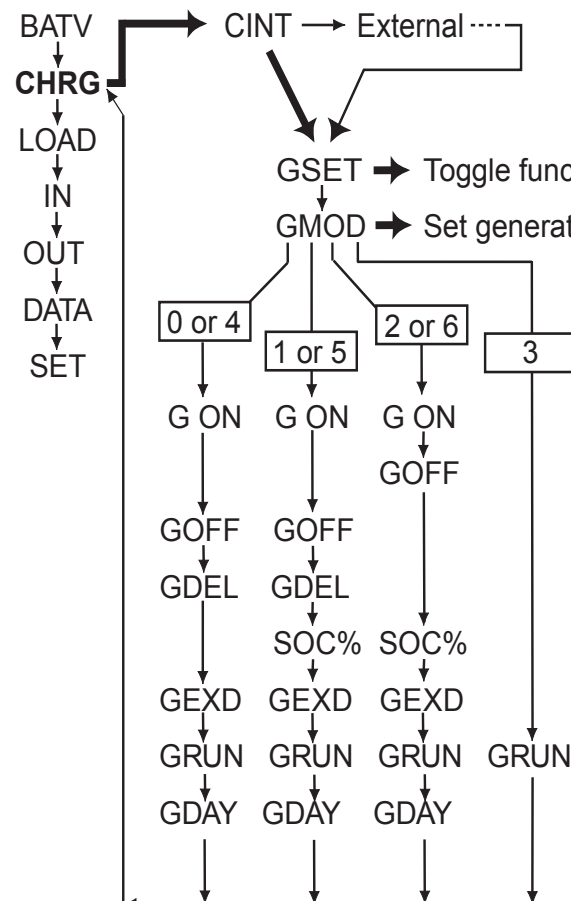

Fig. 2A - Generator Control Menus (PROG=4 only)
*Note - do not confuse the GSET described in Figure 2A with the screen of the same name described in Section 7.5.2. which sets the G terminal function.*